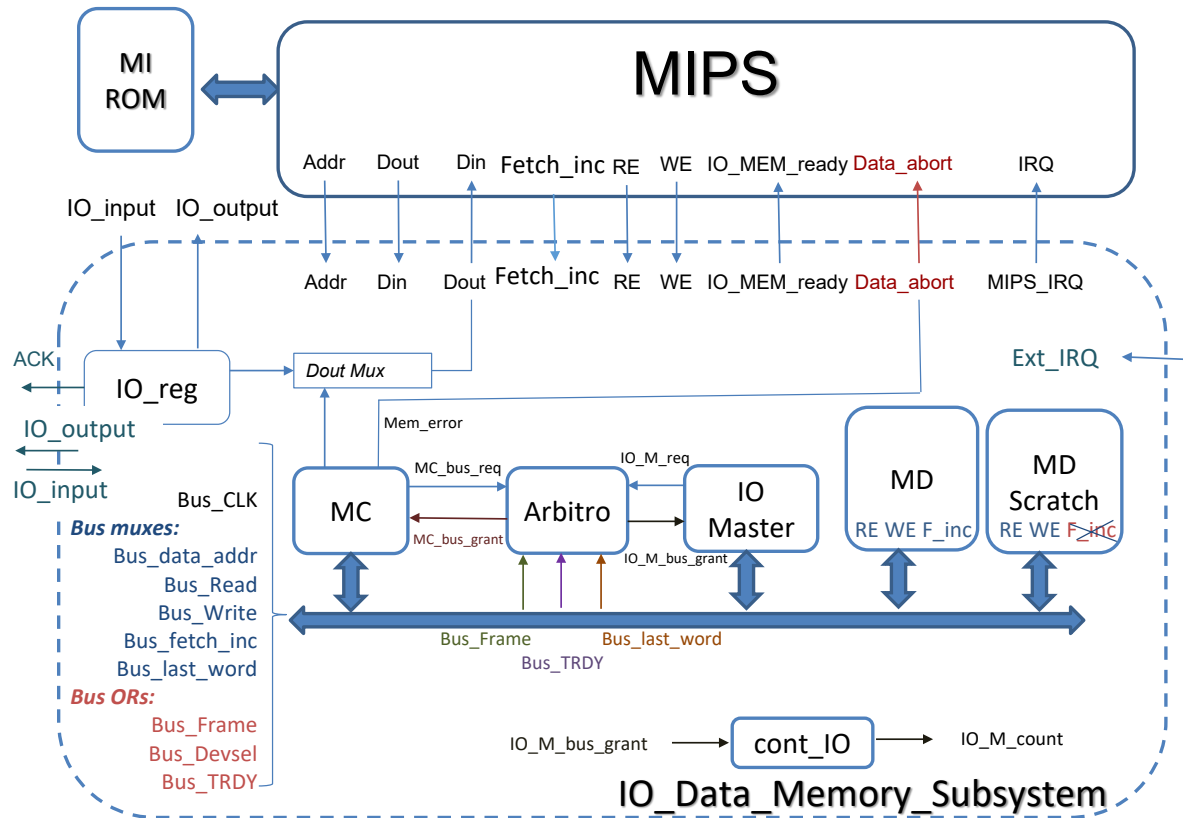

Figure 1: Principal components and signals in the IO_MD_subsystem of this project. The assignment consist in designing the MC Control Unit
In this second project, the memory system encompasses a cache memory (MC), the data memory (MD), a *scratch* memory (MD Scratch), a semi-synchronous bus, and an I/O peripheral (IO_Master). Both the MC controller and the IO_Master controller are bus managers¹. Therefore, the bus requires an arbiter to avoid conflicts. To ensure fair bus access, the arbiter uses dynamic priority assignment. The interface with the MIPS is identical to that of the memory in the first project. Fig. 1 shows the bus signal diagram described below.